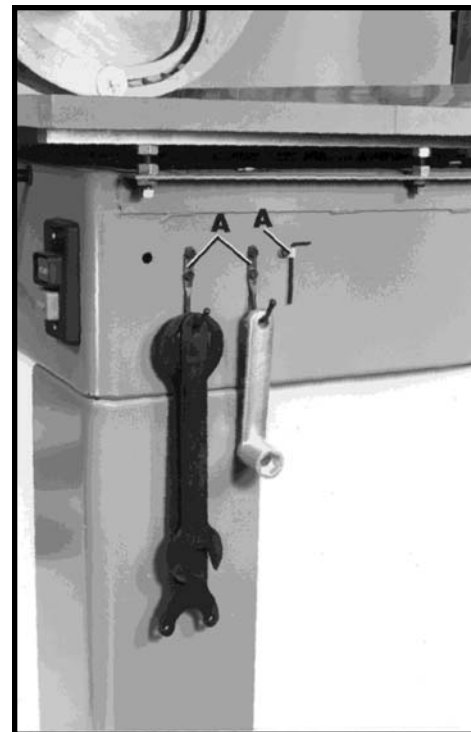

Fig. 51
The Radial Arm Saw is supplied with three brackets (A) Fig. 51, for storing wrenches when not in use.